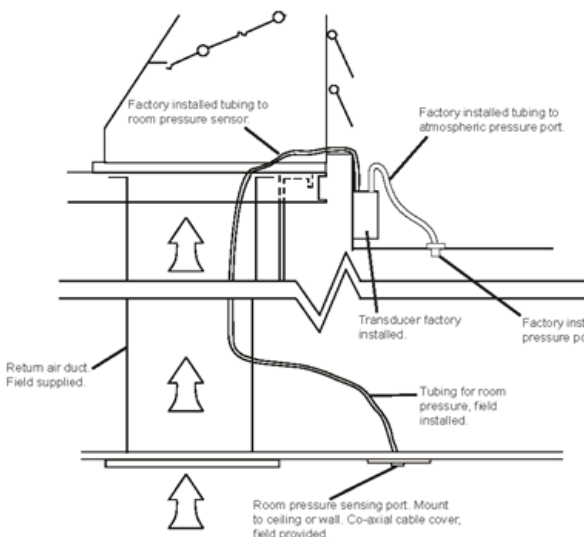

Fig. 1 - Typical Pressure Tubing Installation
Important! Do Not terminate tubing in ductwork! The negative pressure of the return air is not representative of building pressure - See Figure 1.
5. Install room pressure sensing port (factory supplied) in ceiling or wall. Avoid close proximity to supply registers. A Coaxial cover plate (field supplied) may be used for a clean finish - See Fig. 1